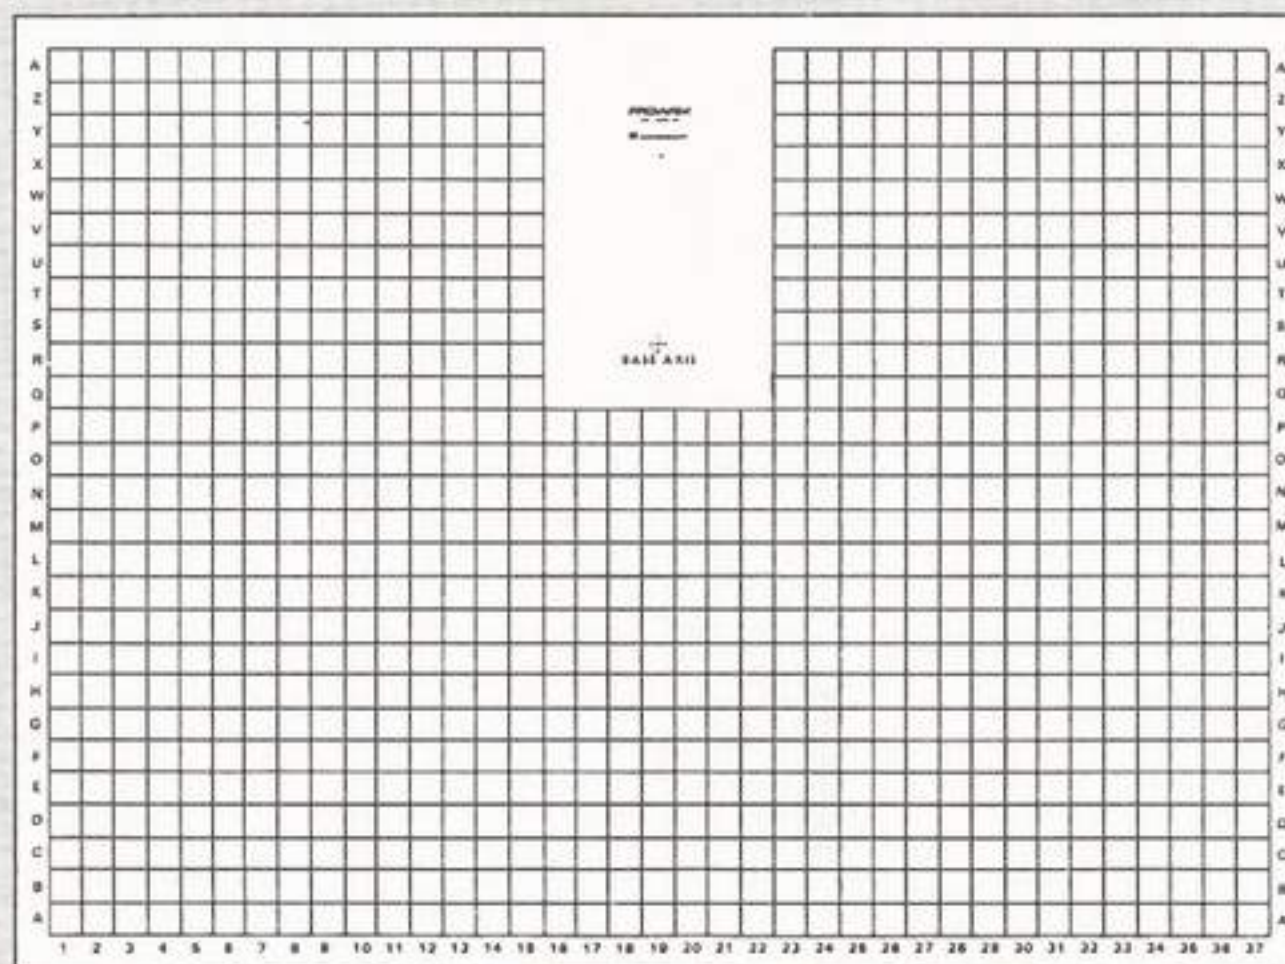

Fig. 82: Working Space Chart—Vertical Work Envelope
- ___o. Copy the vertical work envelope from the grid sheet onto the Working Space Chart in Fig. 82.